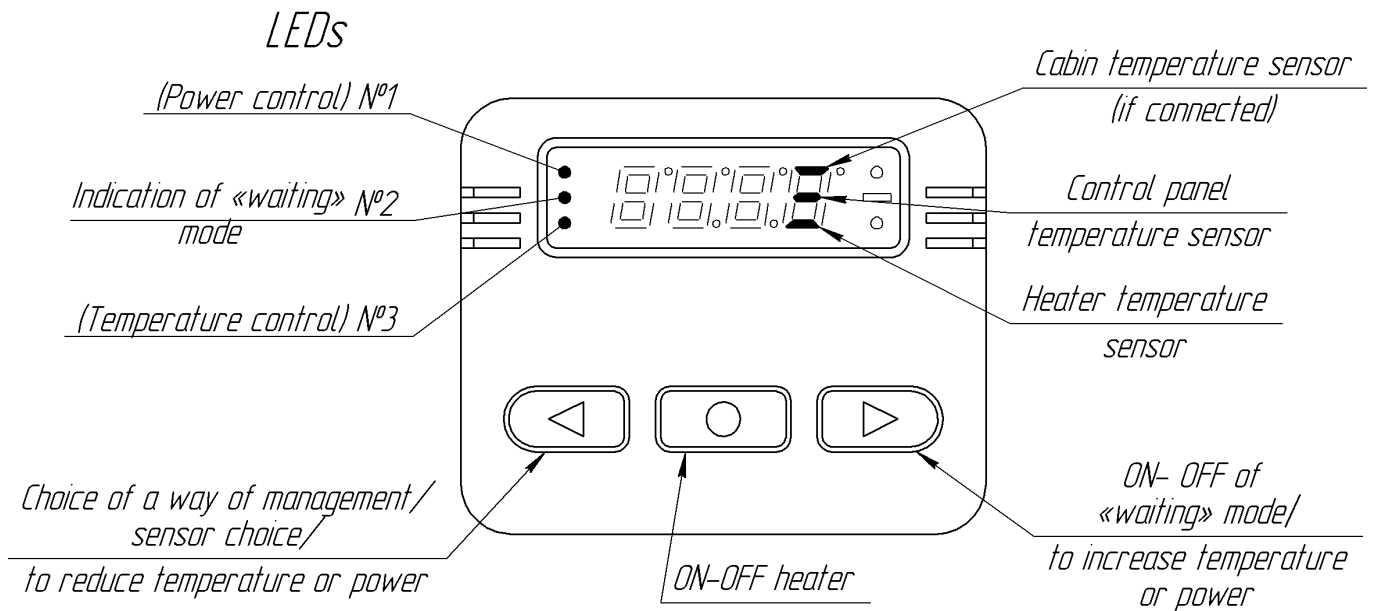

Fig. 6.2- Control panel «IIY-8M»
6.2.1 The front board of the panel contains: four-digit light emitting diode (LED) indicator, three LEDs and three knobs. Functionality of the knobs and LEDs. (fig.6.2)
While first time the heater is connected to electric circuit of the car or after breaks of power supply, according to environmental temperature there will be following information on the panel (for example)- the temperature in the area of the sensor installed in the heater is -12°C , if the temperature in the area of the sensor is above zero, there will be no "mines" before the figure. Movement according to the main menu is carried out by the button « \leftarrow » (fig.6.2)